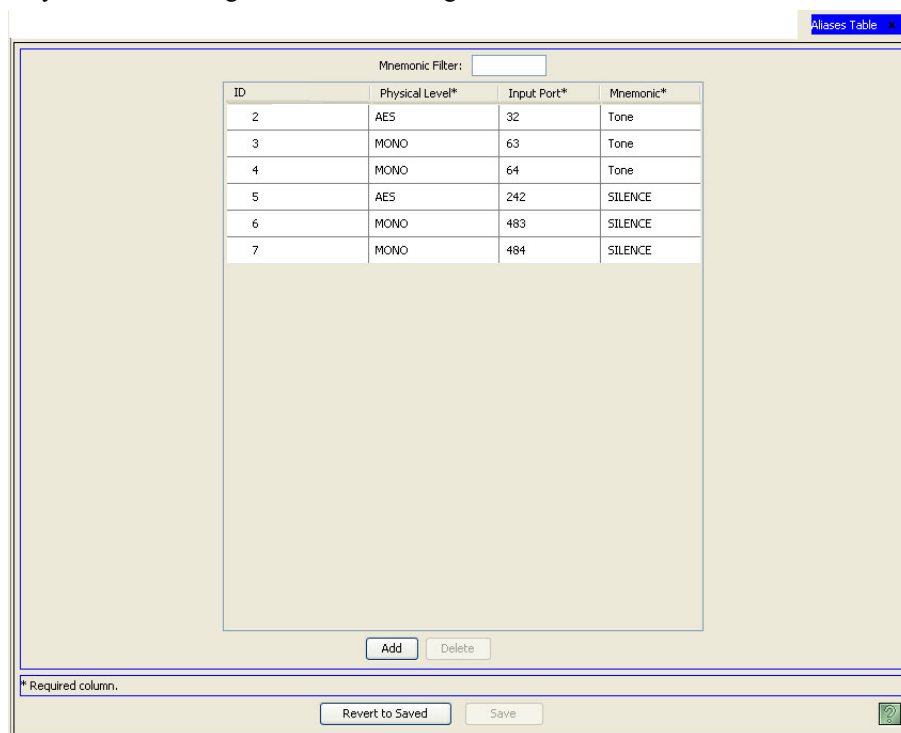

Figure 18-4. Aliases Table
- 2 From the Navigation area, select the 'Views' pane and then 'Aliases'. The 'Aliases' table appears, as shown in Figure 18-4.